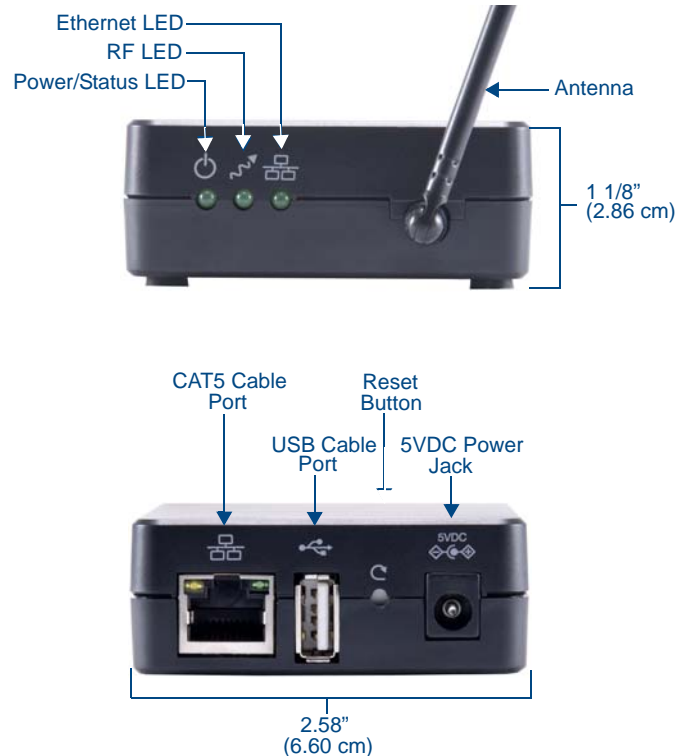

FIG. 1 NXB-CCG ClearConnect Wireless Gateway
1. Press and hold the **Reset** button (FIG. 1) on the device for 20 seconds.